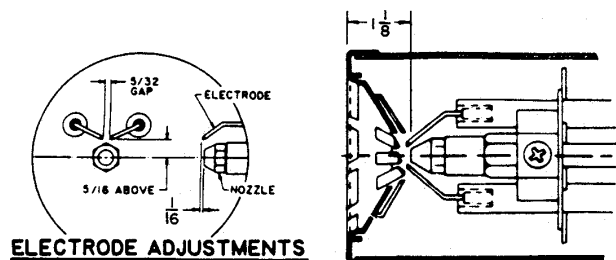

Figure 23: Electrode / Head Setting
1. Check nozzle size, head size, gun setting, and positioning of electrodes. This information is shown in Figure 23, and Table 6.